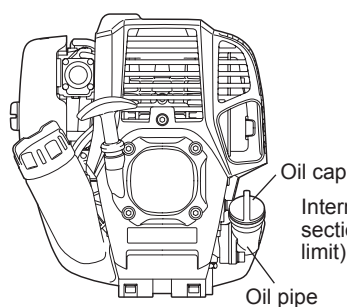
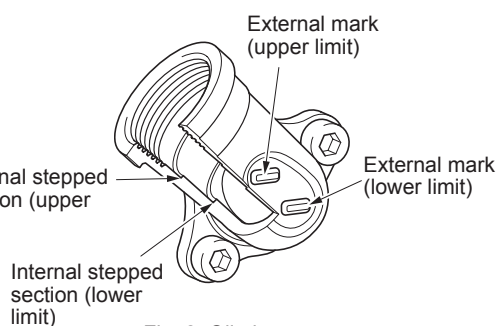

Fig. 1
Fig. 2 Oil pipe
- Set the engine level, remove oil cap (Fig. 1), and check to see whether or not there is oil in the range between the upper limit and lower limit marks of the oil pipe (Fig. 2).